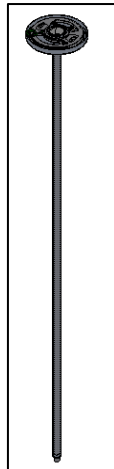

FIG. 3 - CANOPY AND
1. CANOPY AND STEM SUBASSEMBLY. (Pre-assembled as shown in FIG. 3)